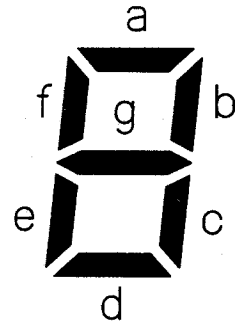

Fig. 3
- Decimal point (DP)
-  b and e of digit 3 (see Figs. 3, 4)
-  g of digit 3 (see Figs. 3, 4)
-  a, c, d and f of digit 3 (see Figs. 3, 4)